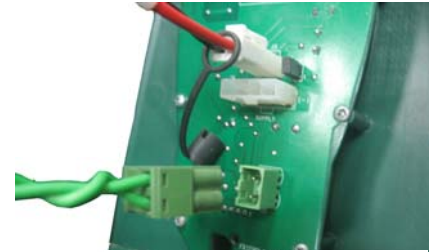

Figure 1.19 -
- Connect the Perimeter Wire connector to the Base Station board (Figure 1.19).